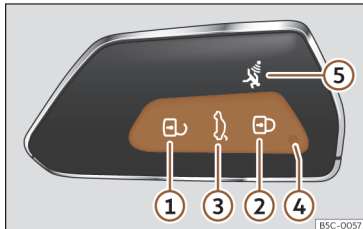

Fig. 71 Vehicle key
When a button is pressed briefly on the vehicle key, the control lamp ④ >>> Fig. 71 flashes once briefly, but if pressed for a long period of time, it will flash several times, for example, when using the comfort opening.